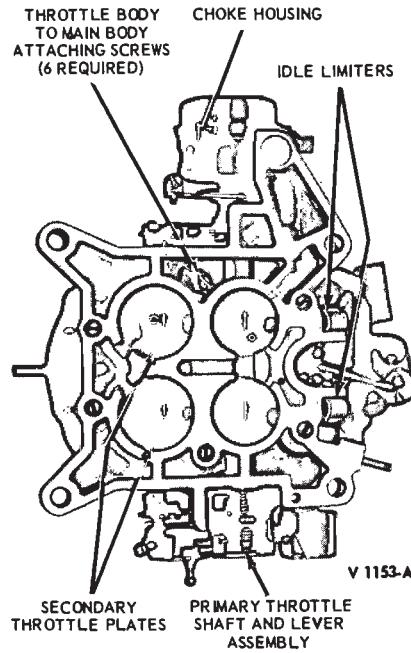

FIG. 10—Throttle Body—Bottom View
1. Remove the throttle body to main body screws from the bottom of the throttle body (Fig. 10) and separate the two castings.